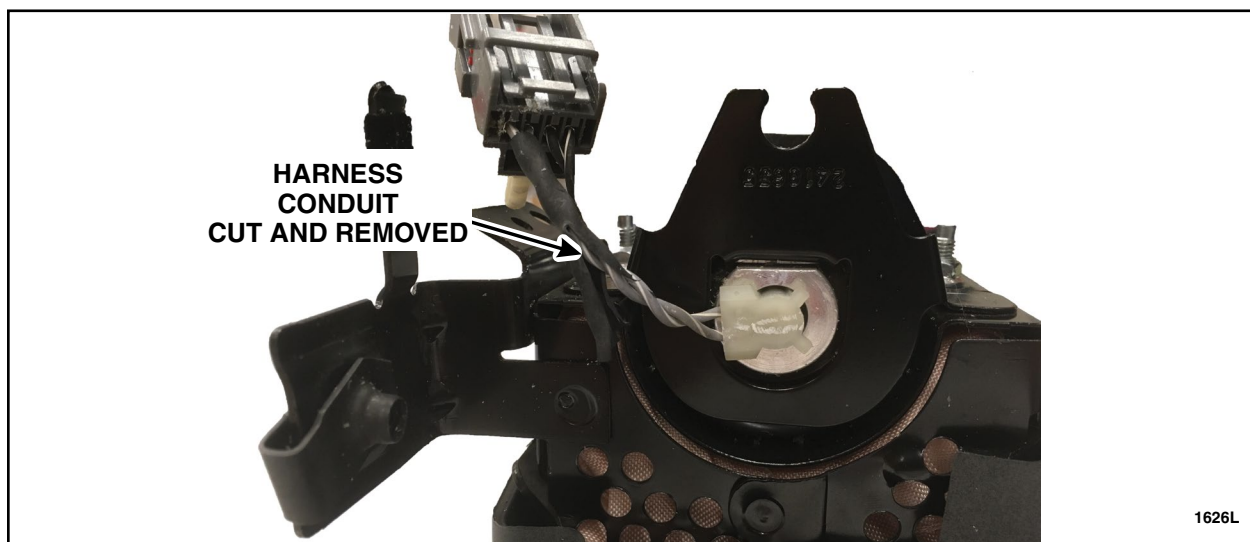

FIGURE 2
NOTE: Carry out this step on the shorter wire on the end opposite of the airbag inflator retaining bracket. See Figure 2.
4. Remove the conduit from the passenger airbag assembly wire harness in the area shown. See Figure 2.